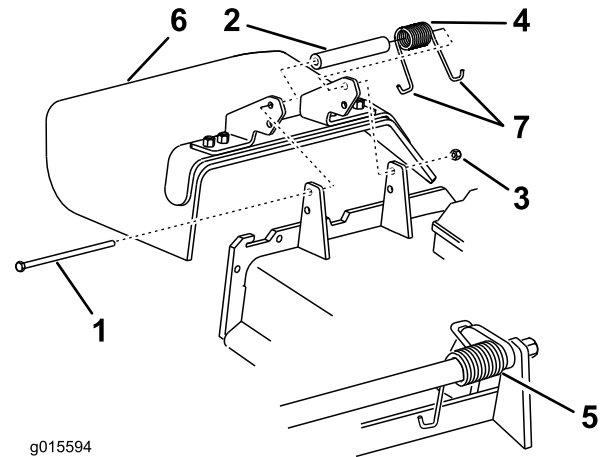

Figure 86
1. Remove the locknut, bolt, spring, and spacer holding the deflector to the pivot brackets (Figure 86).
2. Remove the damaged or worn grass deflector (Figure 86).
**Note:** Make sure that 1 J-hook end of the spring is installed behind the deck edge before installing the bolt as shown in Figure 86.
6. Place 1 J-hook end of the spring around the grass deflector (Figure 86).